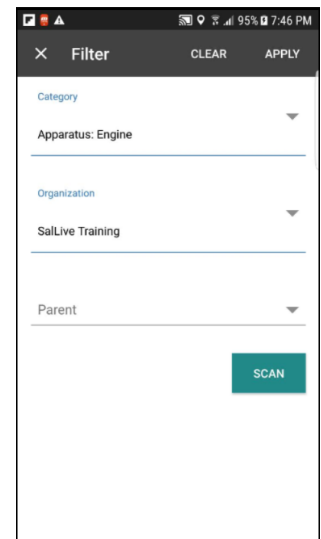

Figure 7.1.1.5
Step 1: Tap the QR Code icon in the lower right corner of the screen (see Figure 7.1.1.6).